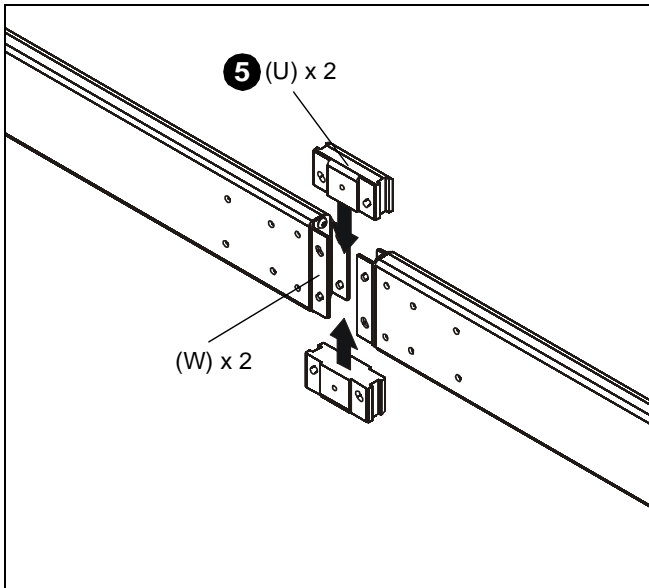

Figure 4
- Place two extender blocks (U) in position between two extender brackets (W). Be sure to line up holes on blocks and brackets. (See Figure 4)